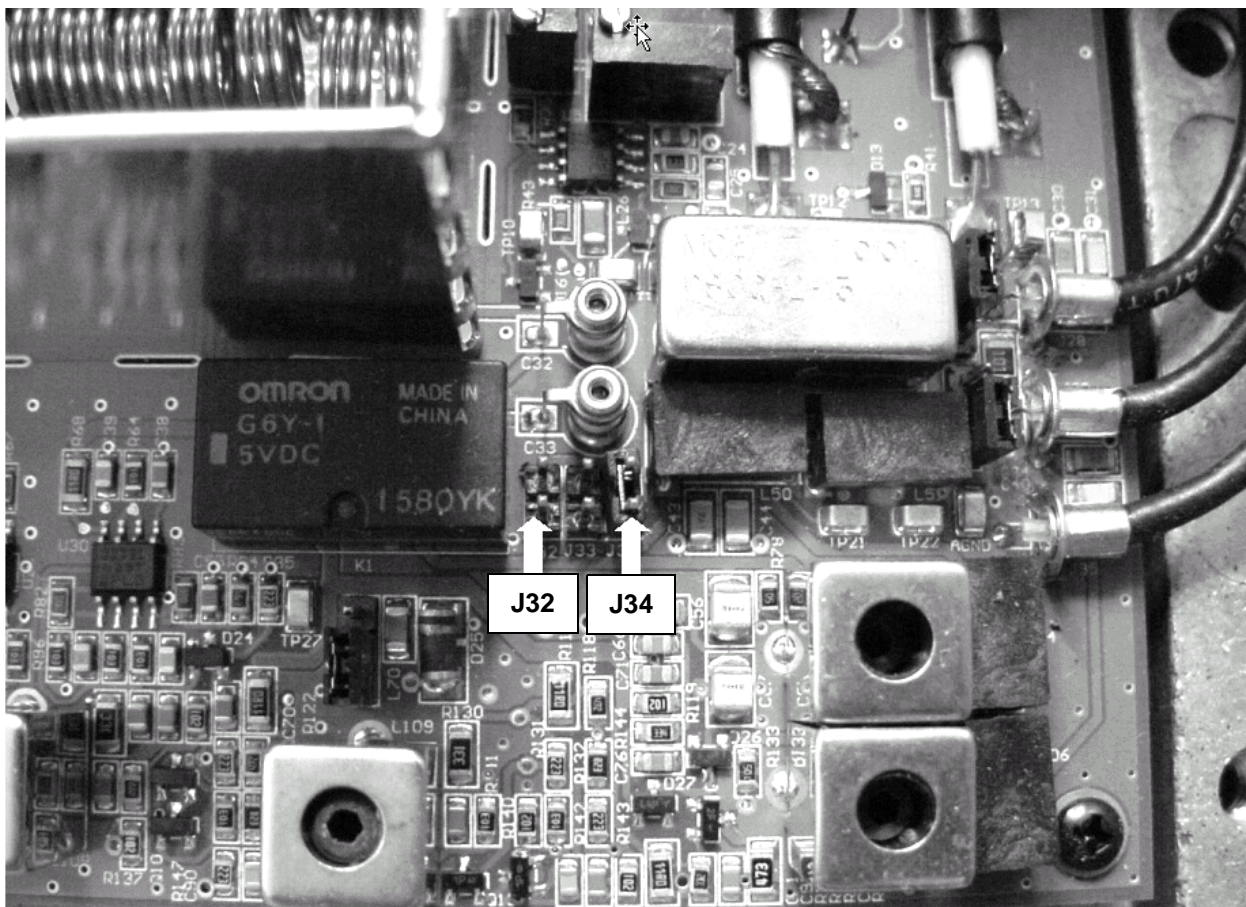

Figure 32: Jumpers 32 and 34
2. Locate jumper 32 and jumper 34 as shown in Figure 32.